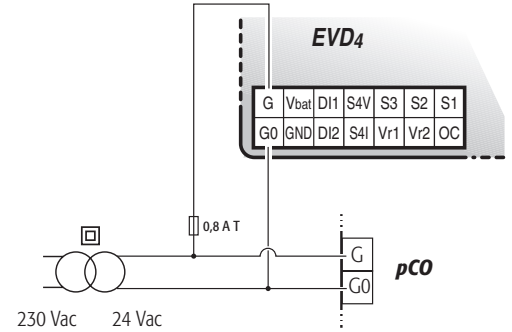

Fig. 3.15
- Power supply: connect G and G0 to the 24 Vac (Fig. 3.15).